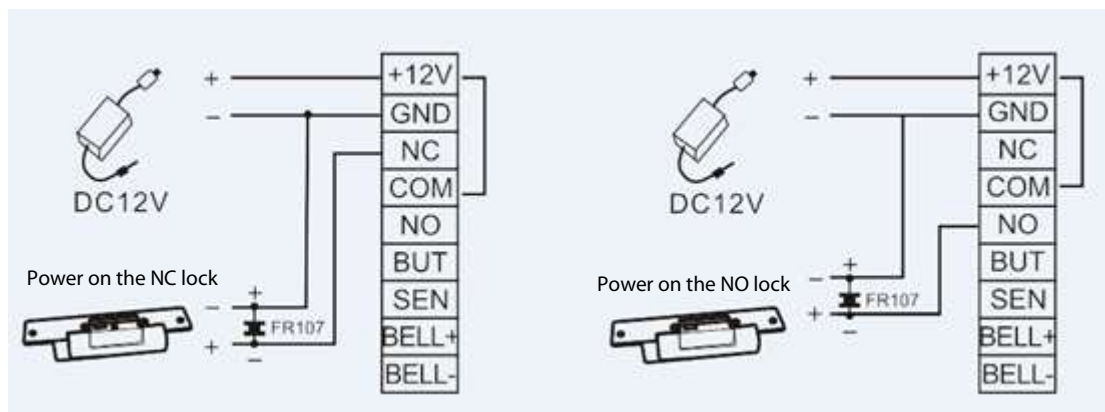

Figure 1-1
- ① This device supports normally open (NO) and normally close (NC) locks which can be connected to different terminals for different functions.
- ② At the moment when the electric lock is turned on or off, the electric lock generates a self-induced electromotive force. To prevent the impact of the self-induced electromotive force on the access control system, it is necessary to connect an FR107 diode in parallel to the electric lock during wiring on the access control system to release the self-induced electromotive. The FR107 diode is randomly provided. Do not reverse its positive and negative poles.
- ③ If an extension cable needs to be connected between the all-in-one device and the controller, we recommend that you use a Category 6 or above unshielded network cable; otherwise, voltage drop may occur on the extension cable, resulting in an unstable card reading effect.
(1) **The device and the lock share the power supply**, as shown in Figure 1-1: